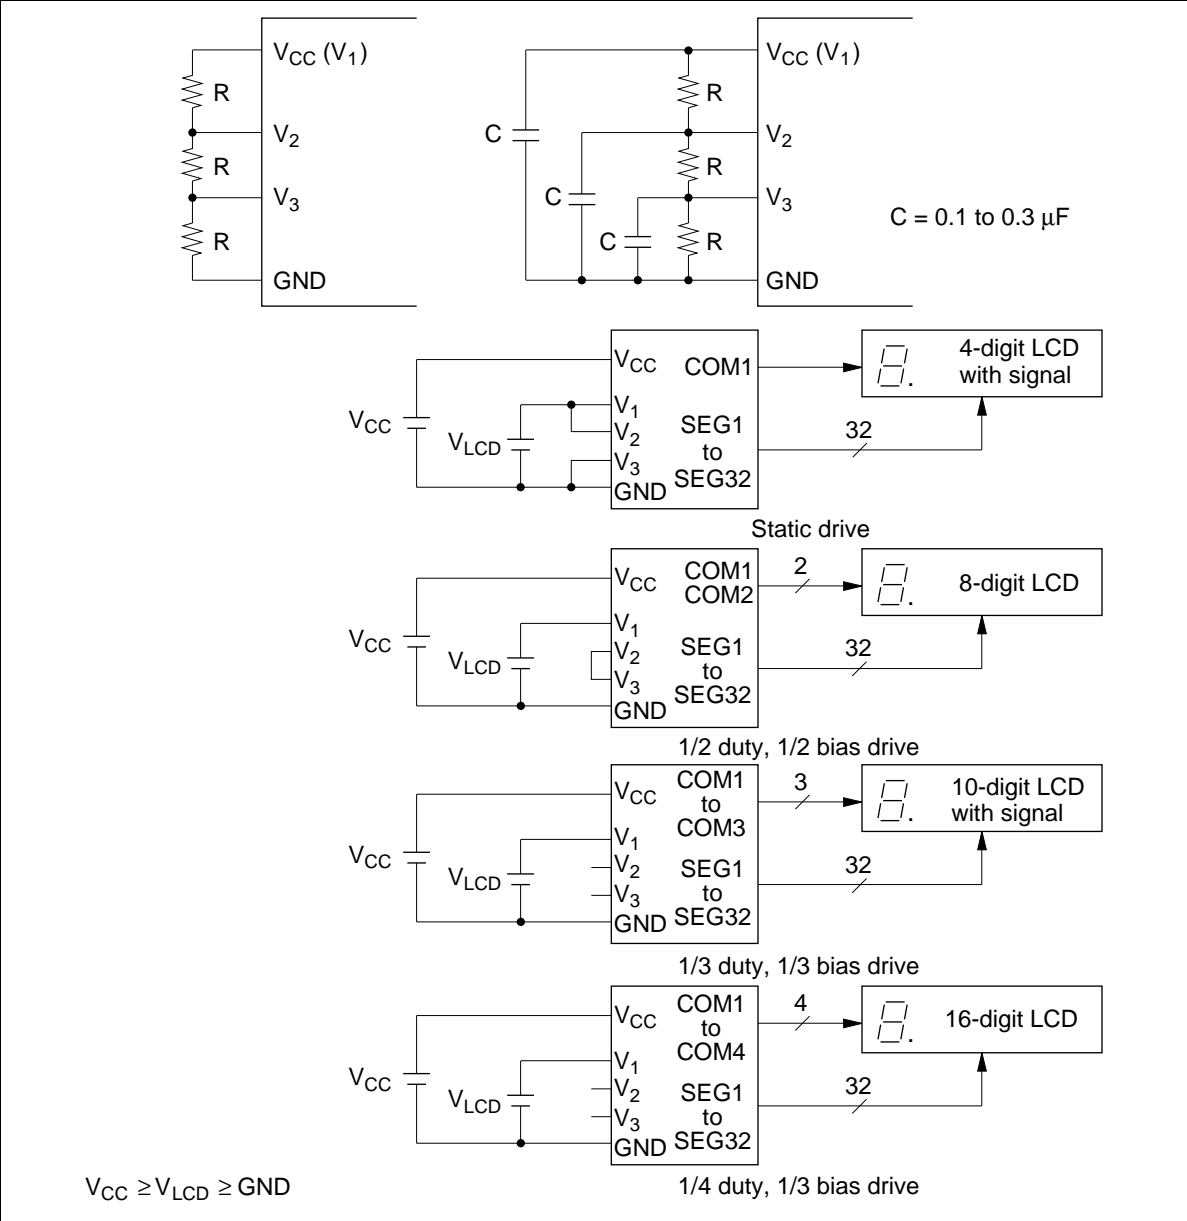

Figure 37 Examples of LCD Connections
**Large LCD Panel Driving and Driving Voltage ( $V_{LCD}$ ):** When using a large LCD panel, lower the dividing resistance by attaching external resistors in parallel with the internal dividing resistors (figure 37).
Figure 37 shows a connection when changing the liquid crystal driving voltage ( $V_{LCD}$ ). In this case, the power supply switch for the dividing resistors (power switch) must be turned off. (Bit 1 of the LCR register is 0.)